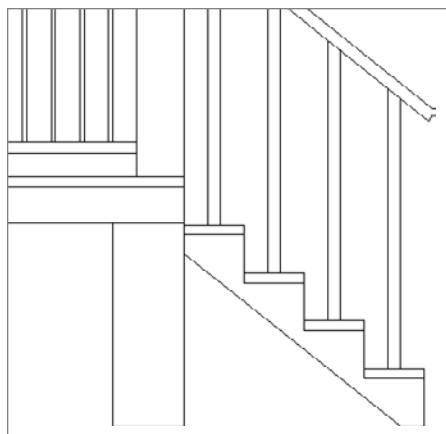

FIGURE 10.31 The extended stringer and the first deck support post
- 3.** Extend the lower stringer line until it intersects the support post, as shown in Figure 10.31.